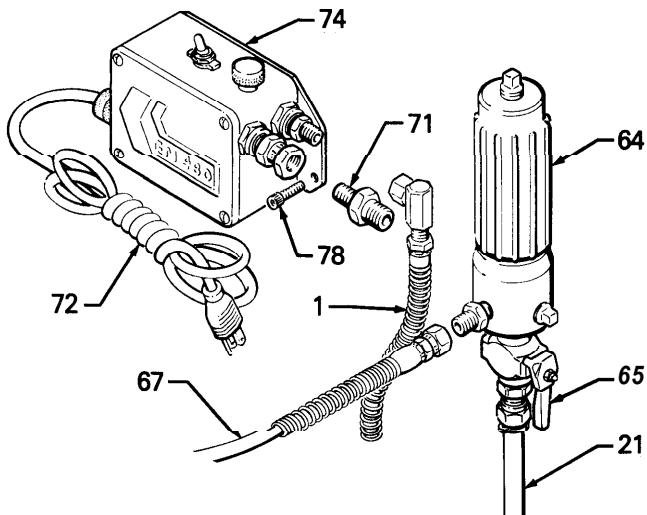
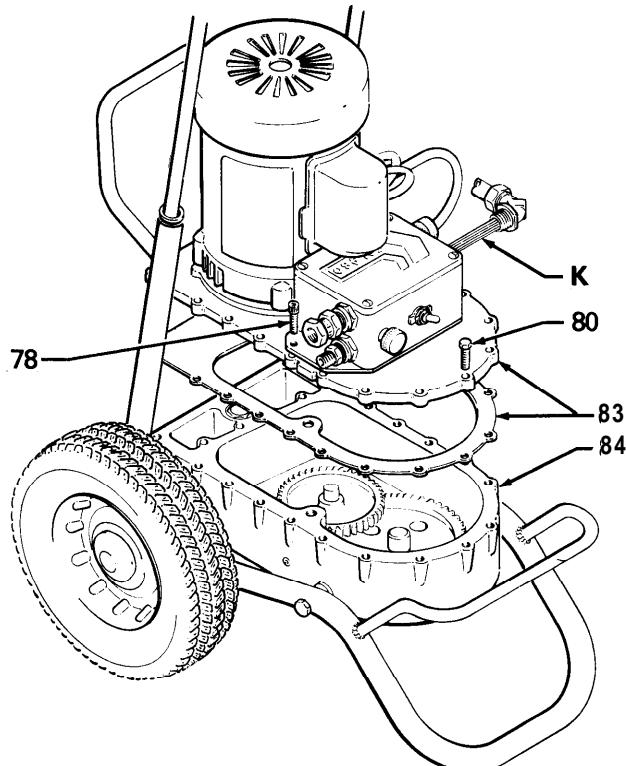

Fig 8
Fig 9
Disconnect hoses (1, 20) from the displacement pump (33). Disconnect the hose (1) from the pressure control (74). Disconnect hoses (21,671 from the fluid filter (64). See Fig 8. Disconnect the conduit and wires (K) from the motor. See Fig 9.
Remove the fluid pump from the gearcase. See Displacement Pump Service on page (7). Remove the four capscrews (87) along the bottom of the pump side of the gearcase. Tip the sprayer forward onto the frame handle so the gearcase is in a horizontal position. See Fig 9. The gearcase must be kept horizontal as the cover is removed to avoid spilling the gearcase oil.
Remove the three capscrews (78) holding the pressure control to the gearcase cover, and remove the control. Remove the remaining capscrews from the gearcase cover. Then carefully lift the motor and cover assembly straight up, off the gearcase. See Fig 9.